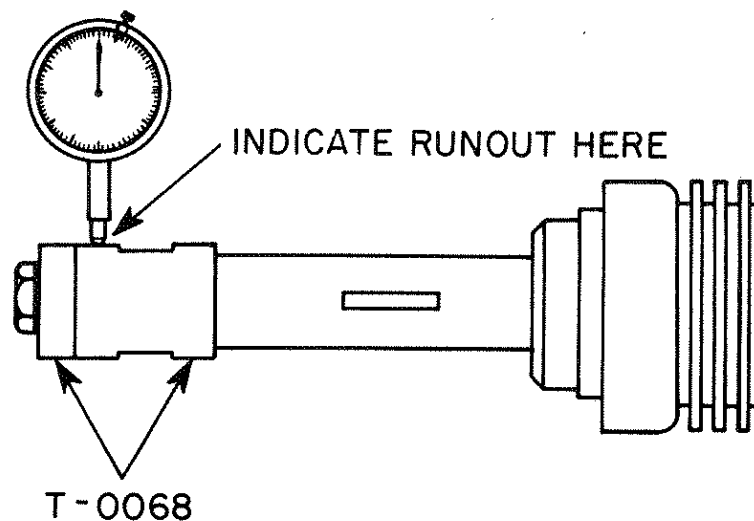

Figure 10-16. TIR Indicator for the Output Shaft
- (1) Runout of the output shaft is checked as follows: (.005-inch Total Indicated Runout (TIR) maximum.) (Fig. 10-16)